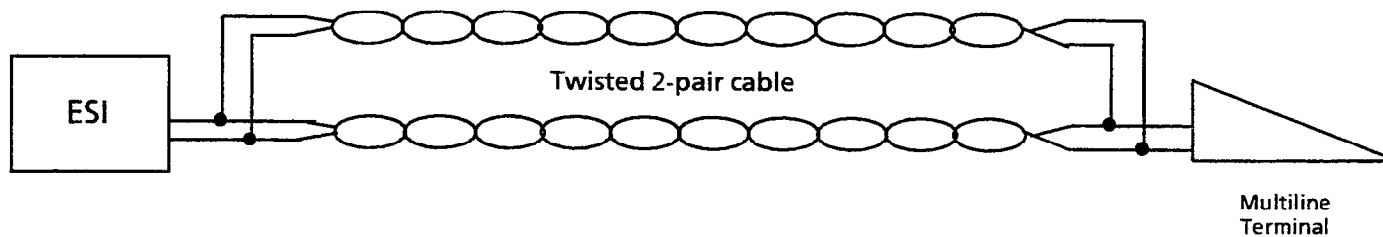

Figure 3-2 Connecting the ESI to the Multiline Terminal Using Twisted 2-Pair Cable
- Note 3:** When additional length is required between the ESI and a Multiline Terminal, Attendant Add-On Console, or SLT Adapter, use twisted 2-pair cable as shown in Figure 3-2 Connecting the ESI to the Multiline Terminal Using Twisted 2-Pair Cable.